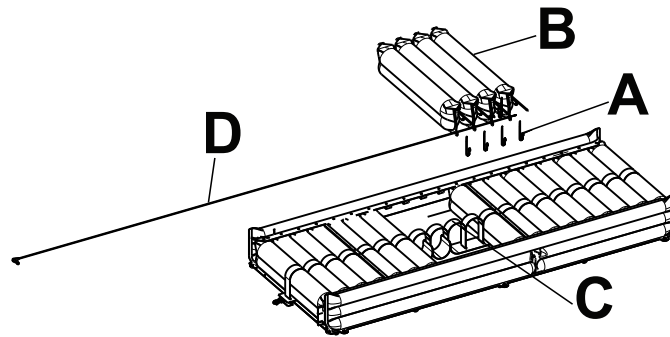

Figure 9 – AST air cells removed
8. Using diagonal pliers, cut the four nylon cable ties (A) from the two-line manifold/AST air cell fittings (B) (Figure 9).
10. Slide the AST air cell through the center belt (C) and remove. Repeat for all four AST air cells.